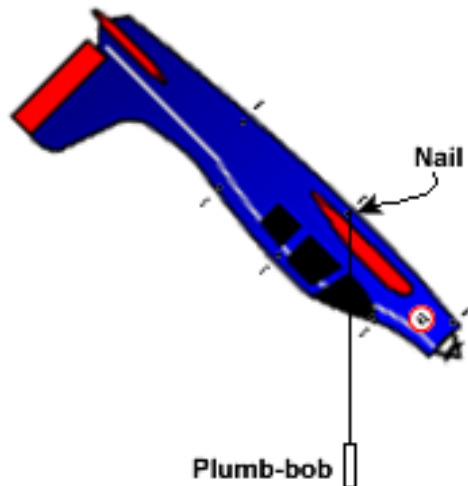

Figure 23
6. Hang the aeroplane up and notice that it hangs at an odd angle, similar to the one in Figure 23. Try swinging the aeroplane and notice that once you let it go it swings like a pendulum for a while but it always stops in the same orientation.